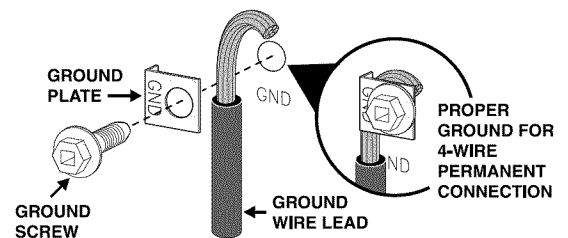

Fig. 15
4. **(4-Wire Permanent Connection ONLY)** Connect the ground wire lead (Green) to the frame of the appliance using the ground screw & plate as shown in Fig. 15. Be sure to install using the same hole in the frame where the ground screw was originally installed.